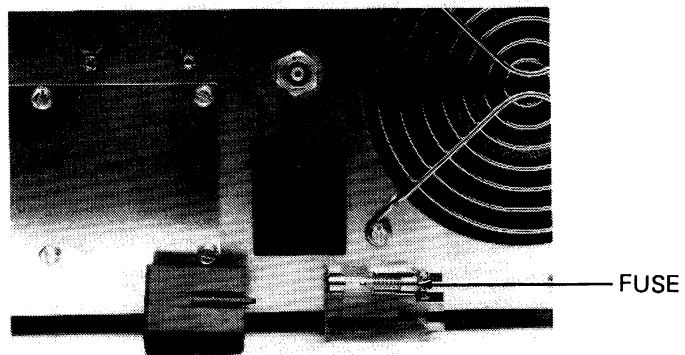

FIGURE 4-6. FUSE LOCATION
6. Locate the fuse on the platform Figure 4-6 and replace if required. Refer to Table 4-2.